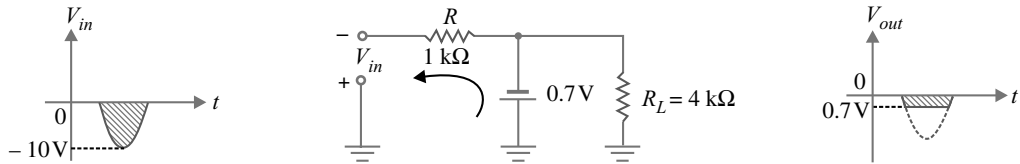

Fig. 16.37
**Solution.** During the negative half-cycle of input signal, the diode is forward biased. Therefore, diode can be replaced by its simplified equivalent circuit as shown in Fig. 16.37. Since load is connected in parallel with the diode,